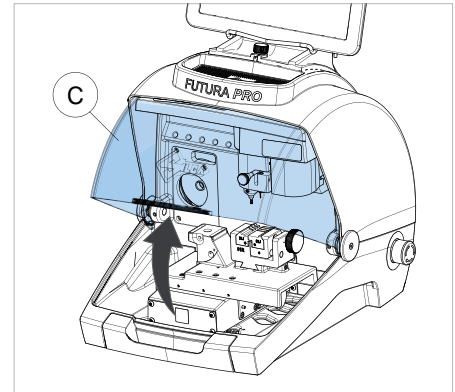

Fig. 7
The shield (C) must be raised in order to fit keys for cutting or carry out other operations (Fig. 7).